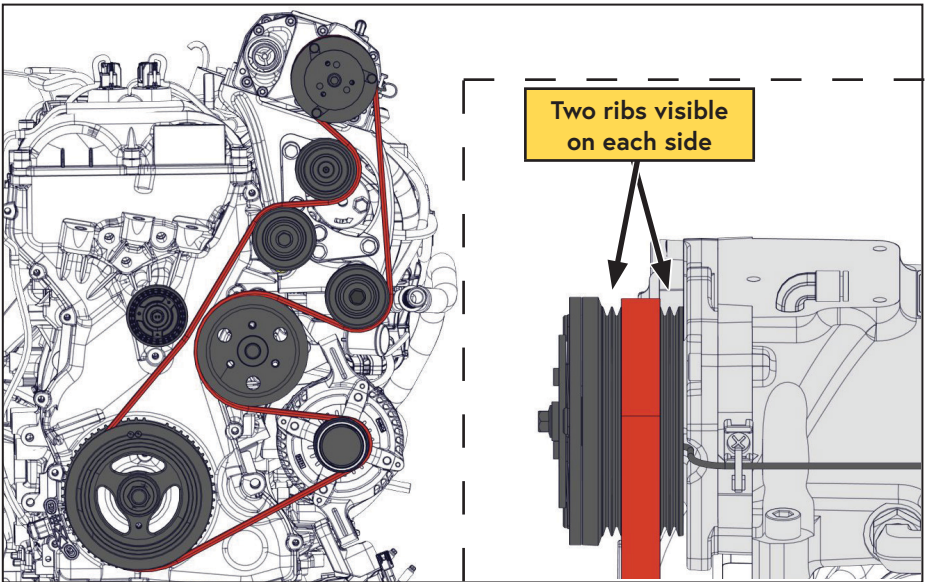

Figure 13 — VMAC belt routing
- Install the VMAC belt on the inside track of the crank pulley. Two clutch ribs should be visible on each side of the belt (Figure 13).